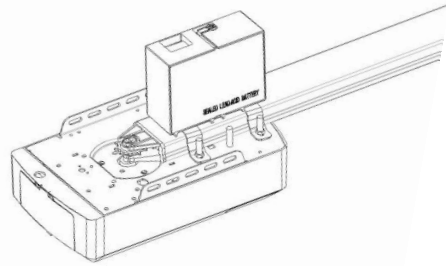

Figure 12
STEP2 (Fig.12)
Join the battery to opener, find the Fig.12